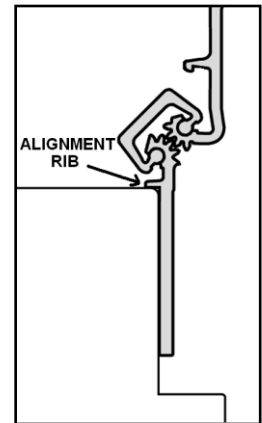

Fig. 1
1. With the hinge open, place the hinge frame leaf against the frame rabbet making certain that the alignment rib is flush against the frame face along its entire length. (See Fig. 1) Position the top of the hinge 1/16" (1/8" maximum) below the header.